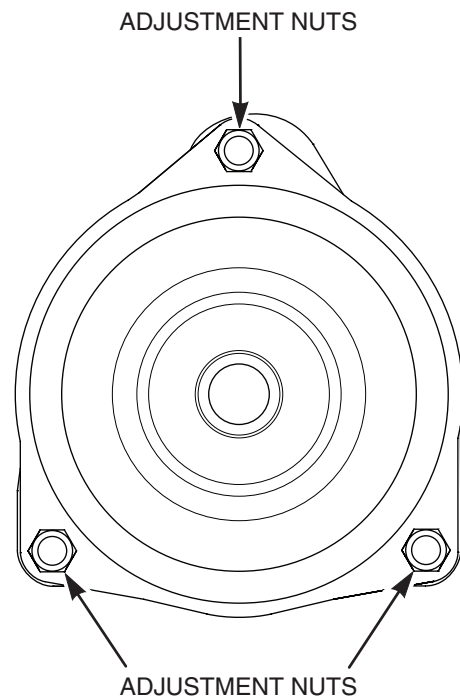

Figure 6-13. Clutch Air Gap Adjustment
3. Tighten or loosen the adjusting bolt as needed to achieve the 0.015 inch airgap. See Figure 6-13. Perform this operation at all three inspection windows.